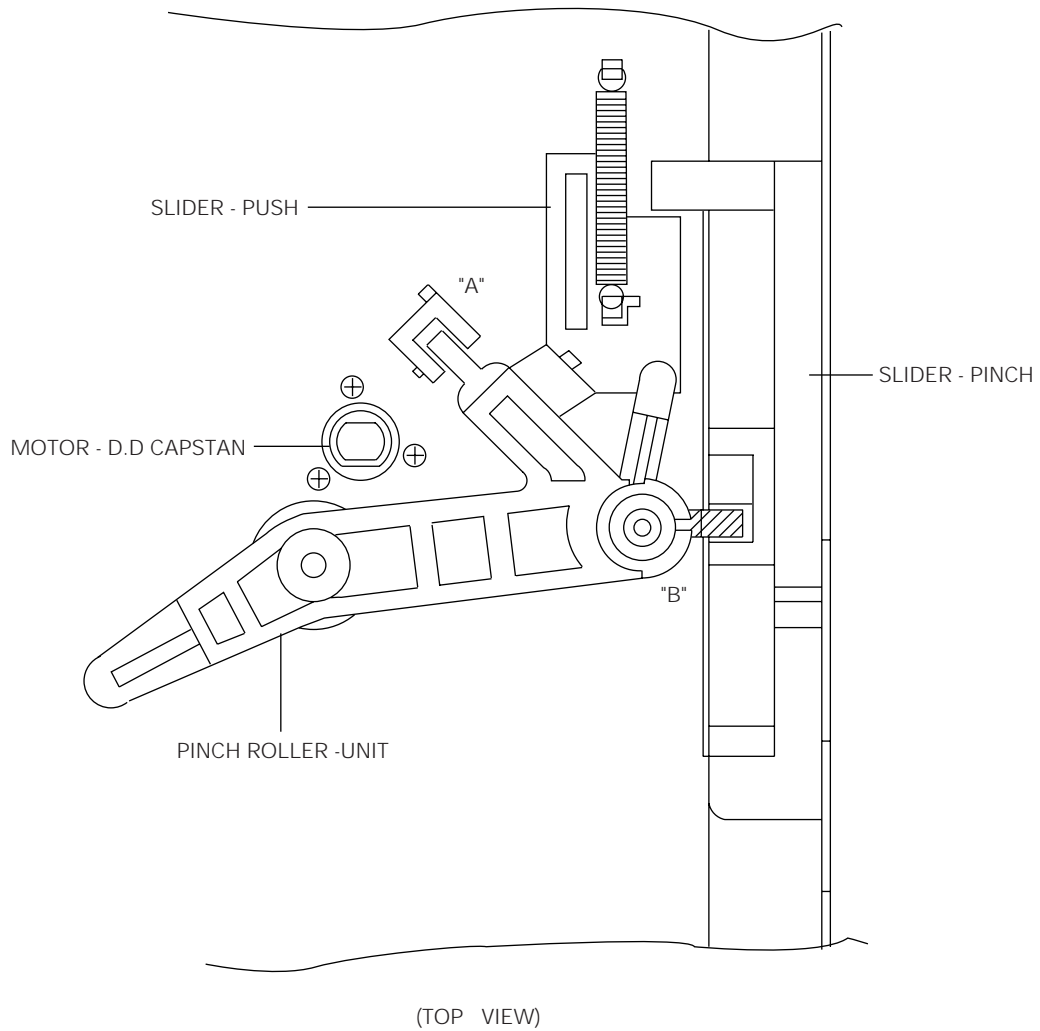

Fig. 4-31 Assembly of Unit Pinch Roller
1. Install the Pinch Roller Unit as shown in Fig. 4-31. (Refer to A, B)